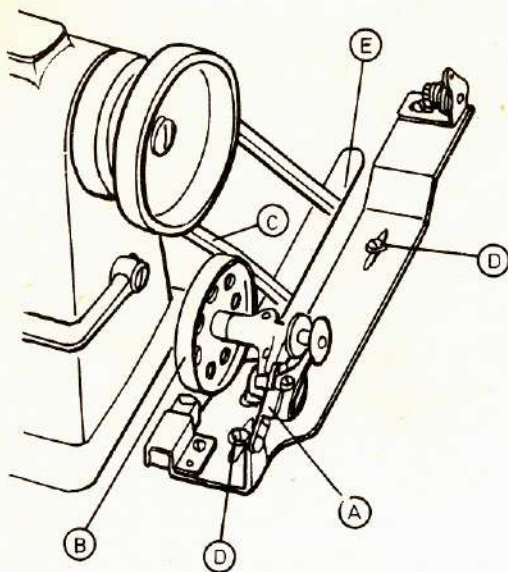

Fig.6
(7) To mount the bobbin winder (fig 6)